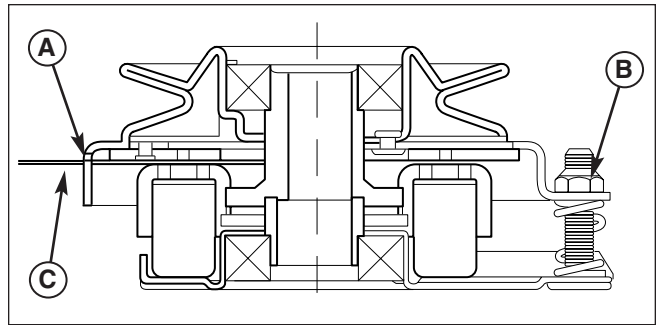

Figure 48. Adjust PTO Clutch
3. Insert a .016"-.018" (0,40 - 0,45 mm) feeler gauge (C) through each window, positioning the gauge between the rotor face and the armature face as shown in Figure 48.